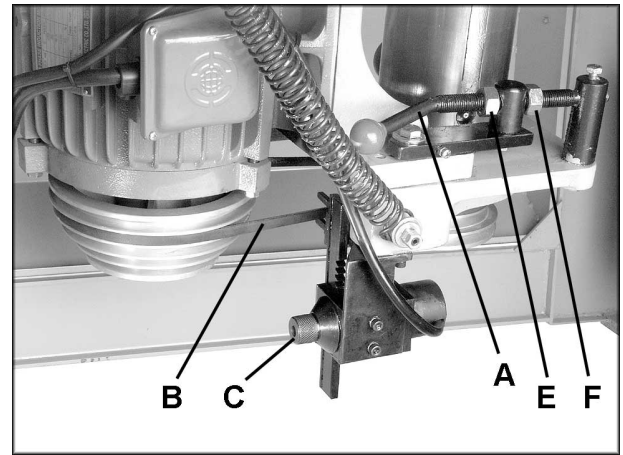

FIGURE 27
2. Open front cabinet door and move belt tension lever (A) to the right to loosen belt tension. See Figure 27.
3. Move the belt (B) to the desired position on the pulleys, while at the same time rotate the knob (C) on the speed indicator so that the belt will remain positioned in the cut-out in the speed bar.
4. When the belt is positioned properly, move the tension lever (A) to the left.
NOTE: During the first use after speed adjustment, the belt will settle and produce a slight decrease in tension. To obtain best tension, turn the two nuts (E & F - Figure 27).